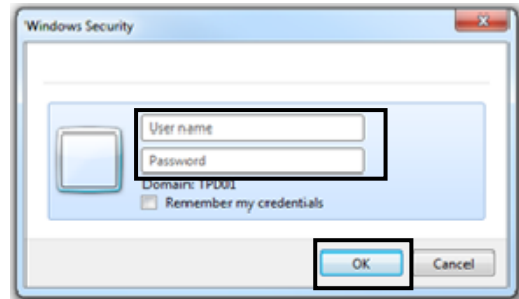

Fig 50. Windows Security Login Window
3. On the “Windows Security” login window, enter “admin” (all lowercase letters) in both the “User Name” and “Password” fields. Then, click “OK” (Fig 50).